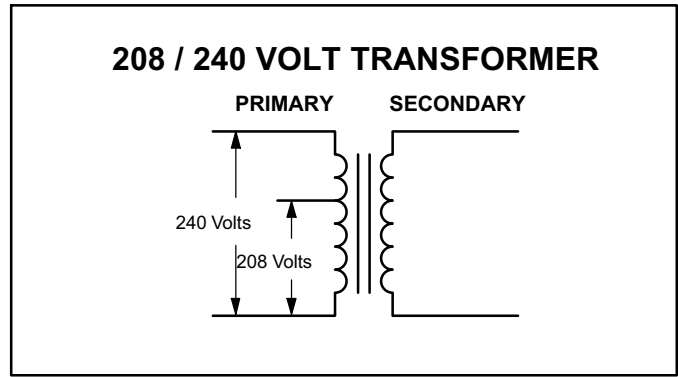

Figure 15. Converting Unit from 240 VAC to 208 VAC
- 3 - Using the wiring diagram located on the unit access panel as a reference, move the black transformer leads from the 240-volt terminal on the transformer to the 208-volt terminal on the transformer. See figure 15.